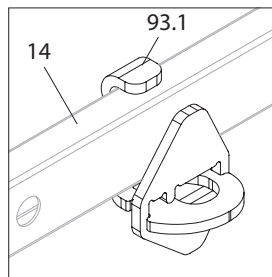

Fig. A11.06c
1. Place the suspension (93.1) of the Ledger-to-Ledger Coupler UHA (93) on the horizontal ledger (14) and hold it with one hand. (Fig. A11.06c)